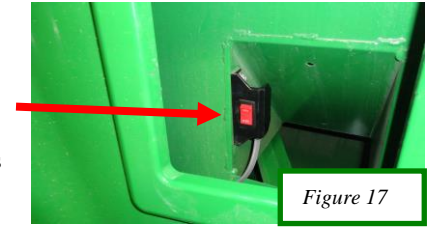

Figure 17
Step 6: Electrical Installation (See Figure 17 - 20)
Mount the switch bracket on the inside of the sample door with 1/4"x1" bolts and nylon lock nuts. (Figure 17)